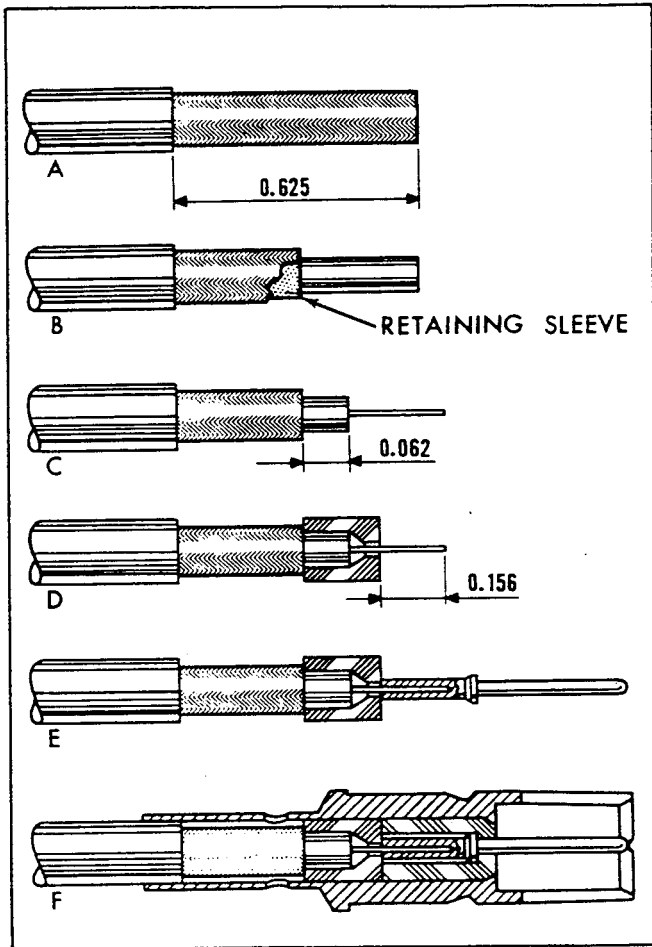

Figure 2-2. Contact Assembly Steps
a. Remove 0.625 inch (5/8") of cable outer sheath from end of cable (A, figure 2-2). Hot wire stripping is recommended to avoid cutting or nicking outer conductor.
b. Expand outer conductor (braid) and slide retaining sleeve under braid until it bottoms against edge of outer sheath (B, figure 2-2).
d. Measure 0.062 inch (1/16") from end of braid and strip remaining cable core from inner conductor (C, figure 2-2). Hot wire stripping is recommended.
e. Position back insulator onto cable, large ID first (D, figure 2-2). Butt back insulator against retaining sleeve, catching ends of braid between insulator and sleeve.
g. Install inner contact on inner conductor and butt back end of contact against back insulator (E, figure 2-2).
i. Position front insulator over crimped contact and slide assembly into contact sleeve (F, figure 2-2). Make certain outer conductor is visible in inspection hole.
i. Slide back insulator over center contact (E, figure 2-2). Place center contact on center conductor.